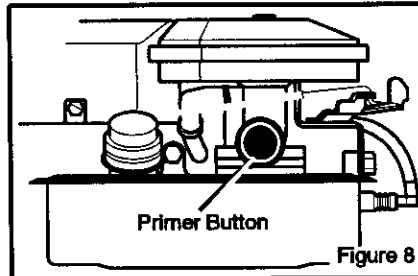

Figure 8
5. The primer button is on the side of the engine (Figure 8). Push the primer button. Every time you push the primer button, wait two seconds. For the number of times required to push the primer button, see the engine manufacturer's instructions.